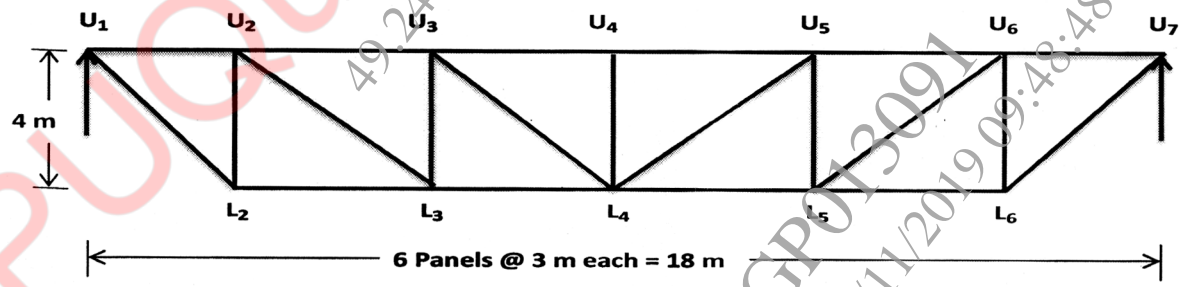

Fig. 8
- (b) Draw the influence line diagrams for the forces in the members  $U_2U_3$ ,  $U_2L_3$  and  $U_2L_2$  of the deck type bridge truss shown in Fig. 8. [6]